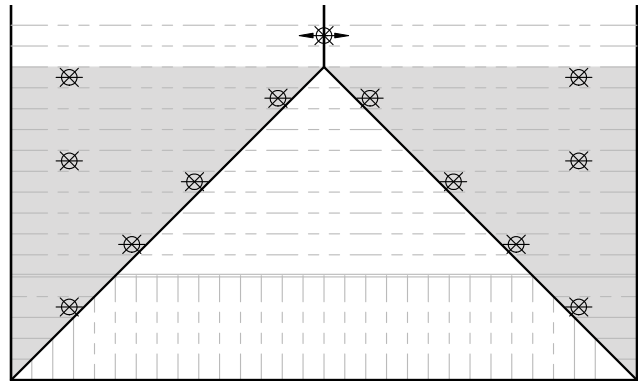

FIGURE 8: ADJACENT HIP PROTECTION OPTIONS
- Identify each space in your attic as a Gable area, a Hip area or a Single Slope area. Refer to Figure 1 and Figure 5 through Figure 8 to choose the appropriate use of sprinklers for your application.